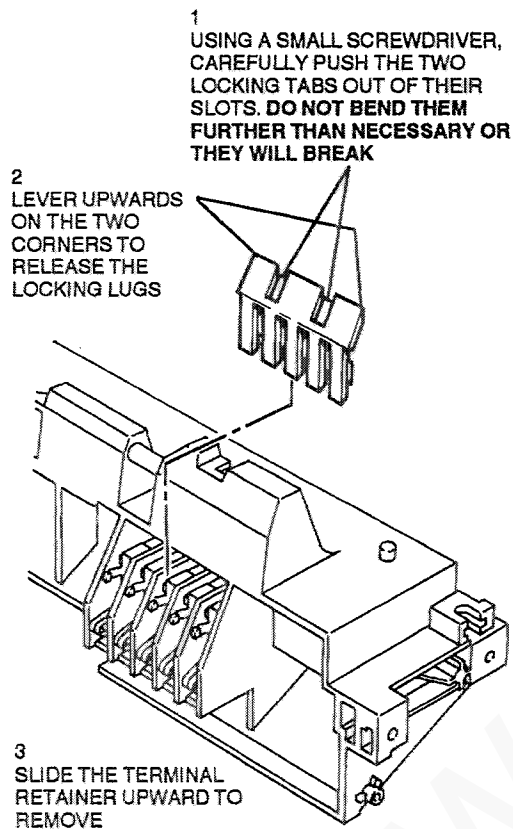

Figure 1. Terminal retainer removal
2. (Figure 1) Remove the terminal retainer.